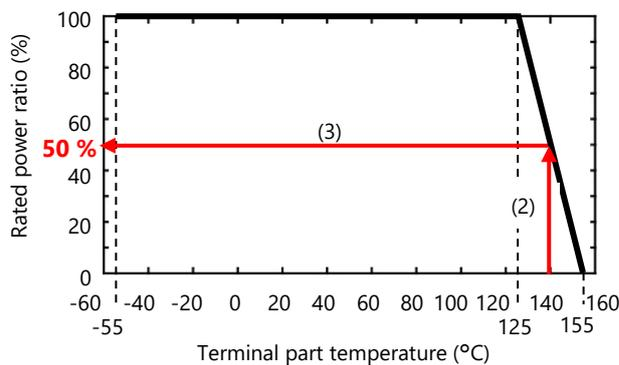

Fig. 7 Derating curve for flat chip resistor (example)
Every resistor has a usable temperature range. And heating results as power applied to resistors. So, it is necessary to manage the applied power and temperature in consideration of the temperature rise so that the limit temperature of the resistors is not surpassed. The derating curve shows the relation between temperature and power that can be applied to resistors. Figure 7 shows an example of a derating curve for a flat chip resistor. The vertical axis represents power that can be applied (rated power ratio), and the horizontal axis represents the temperature of the terminal part of the resistor. For the flat chip resistors of this derating curve, the rated power can be applied until they become 125 °C. When they exceed 125 °C, it is necessary to reduce power in response to the temperature. So, you need to pay attention to the temperature of the terminal part since it varies with the pattern and components mounted on the PWB.
- (1) The flat chip resistor, of which the adequacy is to be verified, is of 0805 size, and the applied power is 0.1 W. The terminal part temperature of the resistor is 140 °C, when power is applied to the resistor.
- (2) A vertical line is drawn from the position of 140 °C on the horizontal axis and the point intersecting with the derating curve is found (Fig. 7(2)).
- (3) A rated power ratio is found by drawing a straight line leftward from the intersection point (Fig. 7(3)).